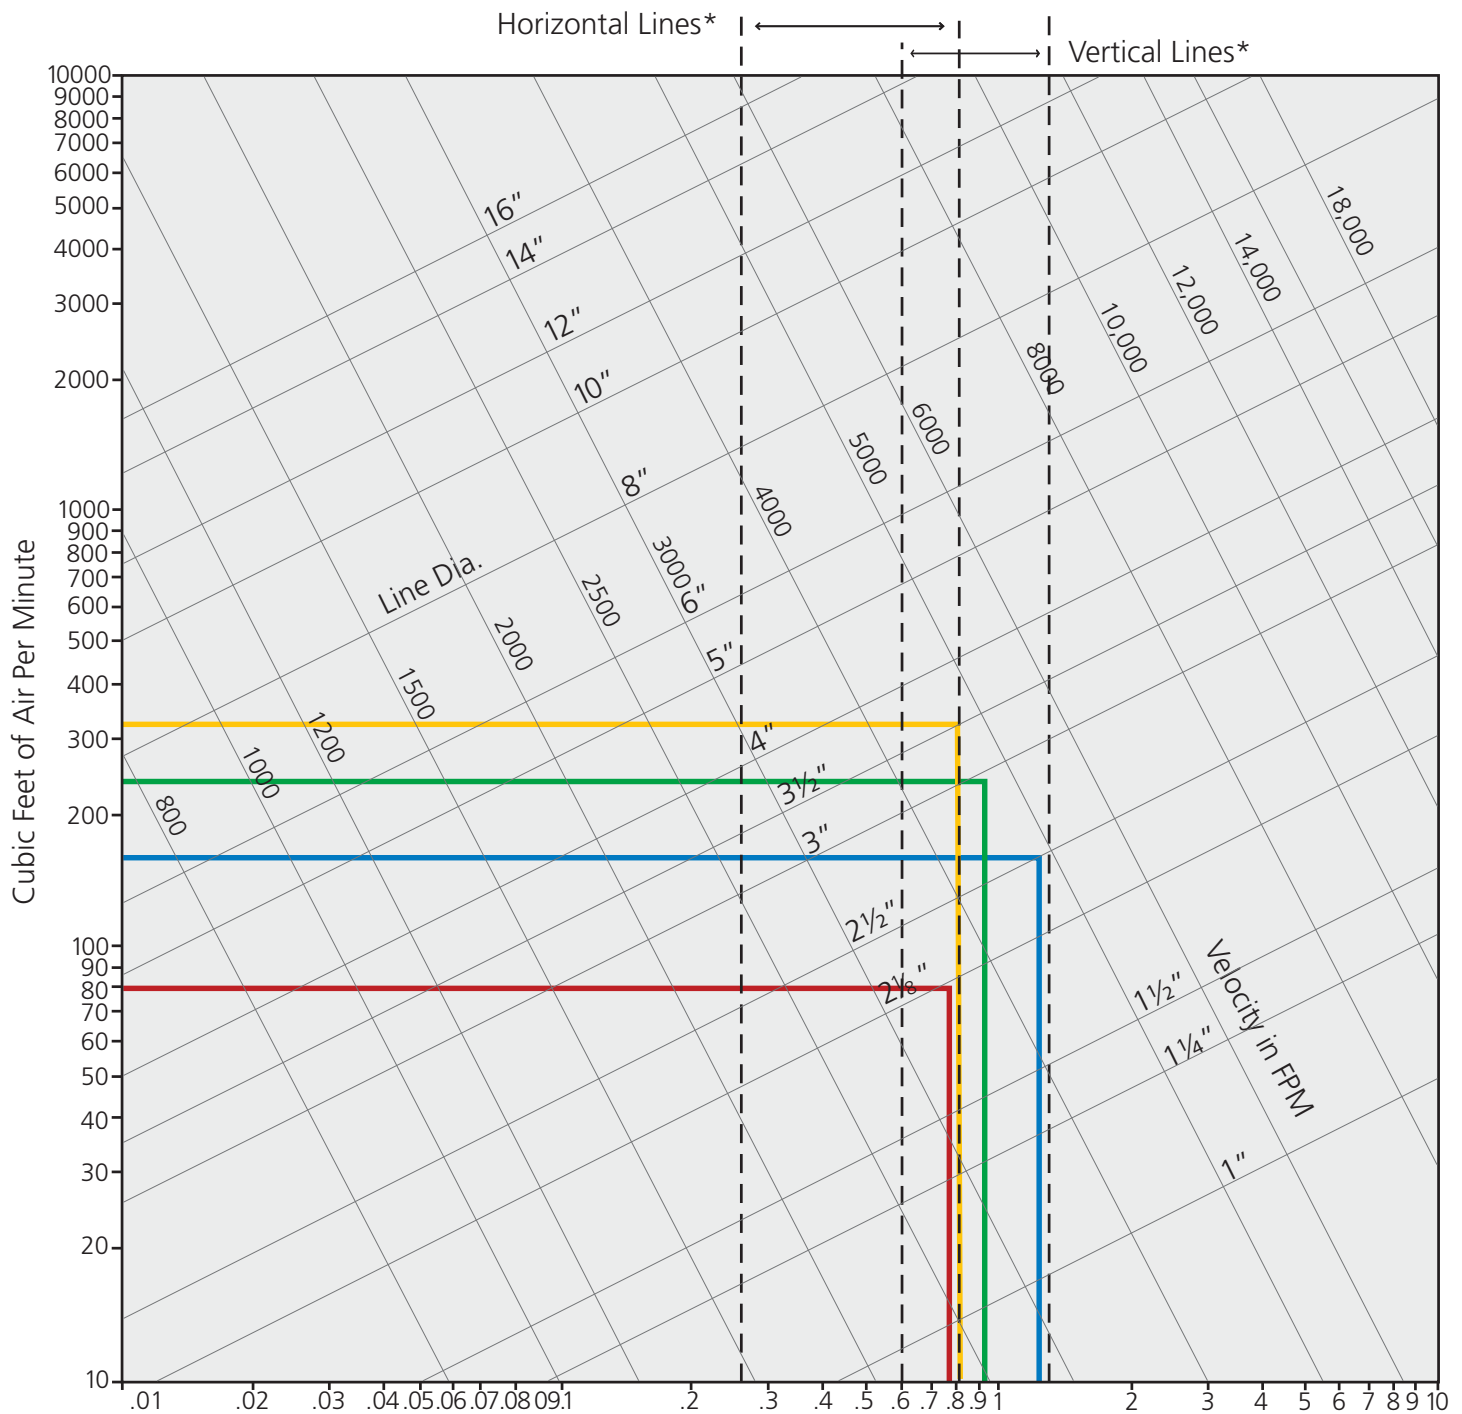

Figure 4: Vacuum Line Loss Chart
- 2. The friction loss in the lines (tubing and piping) can be obtained from Fig 4 "Vacuum Line Loss Chart."
Using a vacuum line loss chart (Figure 4), at 80 SCFM and 2" diameter line, we find .75" Hg loss per 100 ft. line.